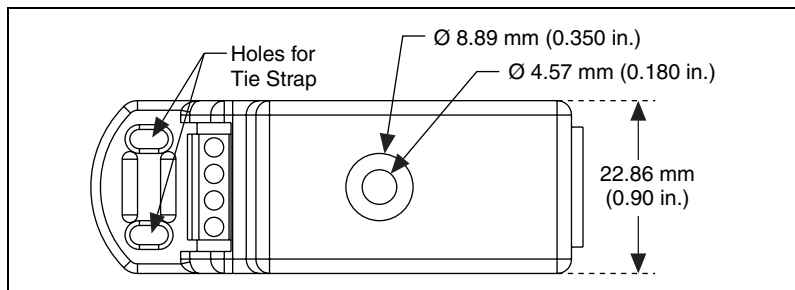

Figure 3. NI 9944/9945 Dimensions and Hole Clearance
- Plastic tie strap for strain relief wrapped around the two front holes, as shown in Figure 3
- M4x20 screw, or other hardware that fits in the 8.89 mm (0.350 in.) outer clearance hole and 4.57 mm (0.180 in.) inner clearance hole, as shown in Figure 3